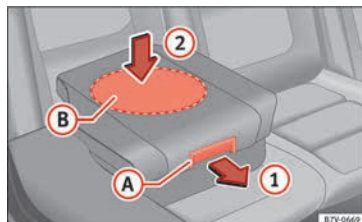

Fig. 98 Integrated child seats. lowering the cushion
- Pull the unlock lever » **Fig. 98** **A** on the cushion in the direction of the arrow **1**.
When lowering the integrated child seat, only press on the centre of the cushion **»» Fig. 98 2**. Otherwise the cushion could bend and not engage properly.